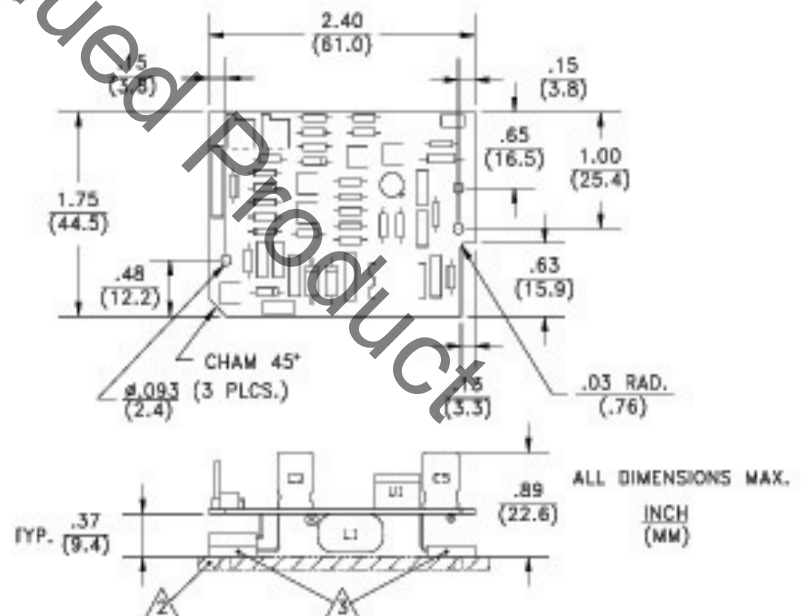

Figure 1
- Open frame printed circuit card suitable for OEM applications. (See Figure 1)
2. Heat sink (as indicated in FIGURE 1) required for proper operation. (Can also be metal bulkhead or chassis where unit is to be mounted).